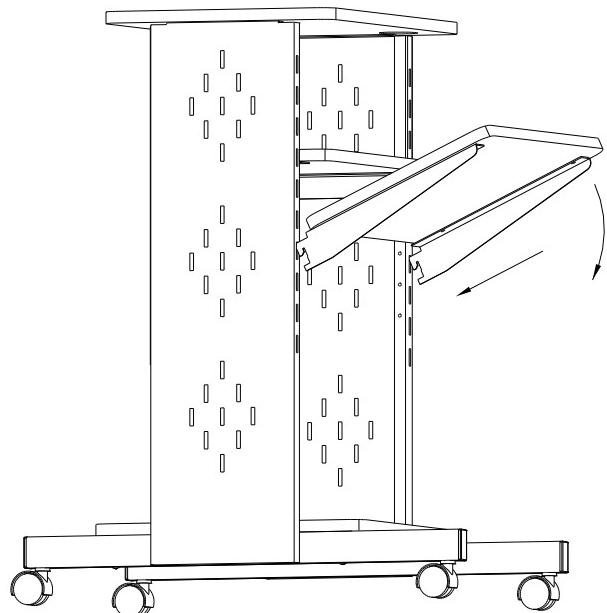

Figure 9
10. Determine the height needed for the Laptop Shelf. Insert the Brackets into the rectangle cutouts and rotate the shelf assemble down. See Figure 9.